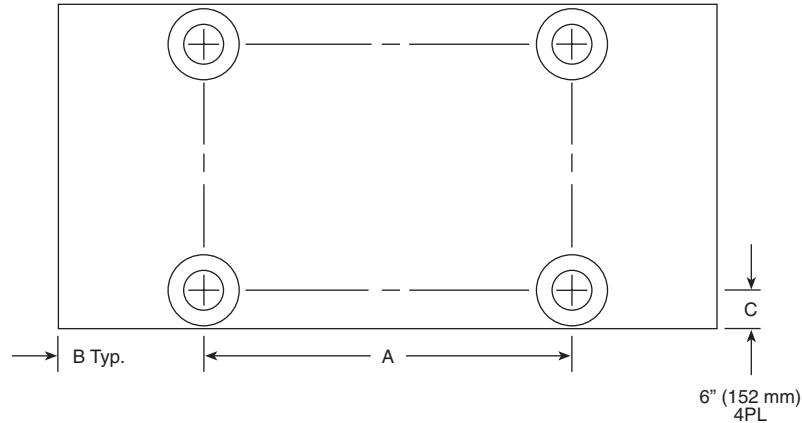

Figure 1 – Isolation Position
Figure 1 shows the correct isolator positions for standard table size. Table 1 shows the correct dimensions (A, B, & C) for each table size. If your table is not listed, the isolator positions for your table will be in the data package provided with the system.
- C. Install three isolator clamps in the corners where each isolator is located (figures 1 & 2). Loosely secure the clamps with the bolts. Do not tighten the clamps at this time.